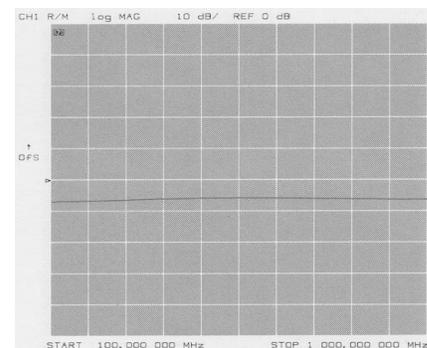

Figure 8. Plot of swept IF/fix LO conversion loss of a mixer
11. Since the mixer's RF input power was chosen to be 0 dBm and the loss due to the IF components was removed, the resulting display shows the swept IF conversion loss of the mixer versus IF frequency. A plot of this is shown in Figure 8.